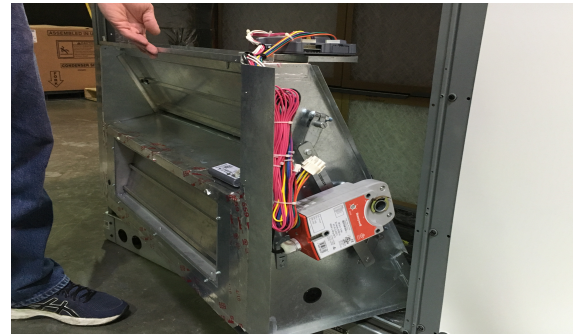

Figure 2
3. Slide internal damper rack into the opening until the outside flanges of the assembly nest inside of the posts framing the opening. (Figure 2)